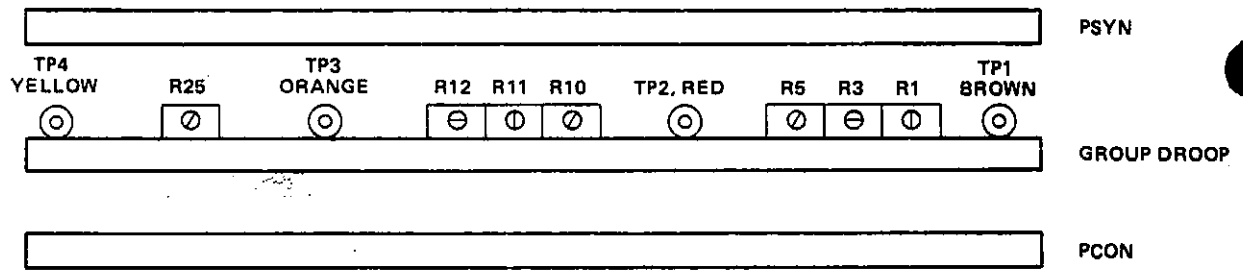

Figure 2.12. Test Point and Potentiometer Locations (as viewed with PGEN side panel removed)
2.5.3 Group Droop Module Programming and Initial Settings. This procedure is required when replacing a Group Droop module as well as for initial installation. For test point and potentiometer locations refer to Figure 2.12.
(4) Adjust R1 and R5 (see Figure 2.12) fully in the clockwise direction.
(5) Adjust R12 and R10 (see Figure 2.12) fully in the counterclockwise direction.